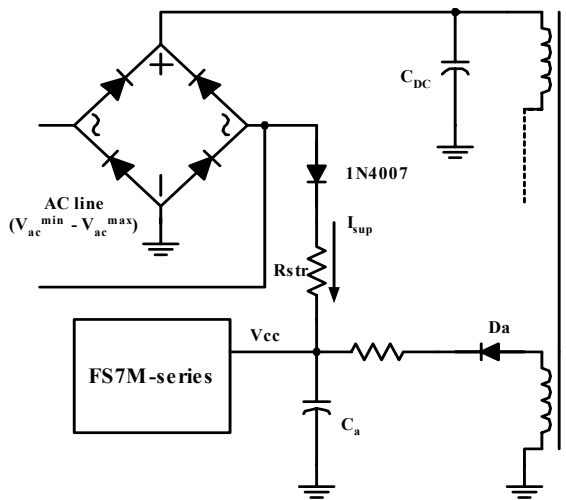
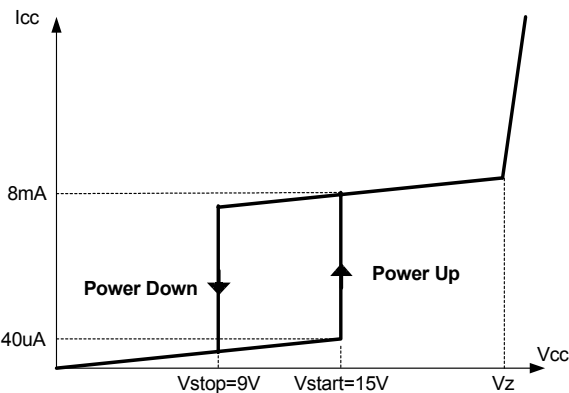

Figure 4. Startup circuit
Figure 5. Relation between operating supply current and Vcc voltage
1. Startup : Figure 4 shows the typical startup circuit and transformer auxiliary winding for FS7M-series. Because all the protections are implemented as latch mode, AC startup is typically used to provide a fast reset as shown in Figure 4. Before FPS begins switching operation, only startup current (typically 40uA) is consumed and the current supplied from the AC line charges the external capacitor (C_a) that is connected to the Vcc pin. When Vcc reaches start voltage of 15V (V_{start}), FPS begins switching, and the current consumed by FPS increases to 8mA. Then, FPS continues its normal switching operation and the power required for this device is supplied from the transformer auxiliary winding, unless Vcc drops below the stop voltage of 9V (V_{stop}). To guarantee the stable operation of the control IC, Vcc has under voltage lockout (UVLO) with 6V hysteresis. Figure 5 shows the relation between the FPS operating supply current and the supply voltage (Vcc).